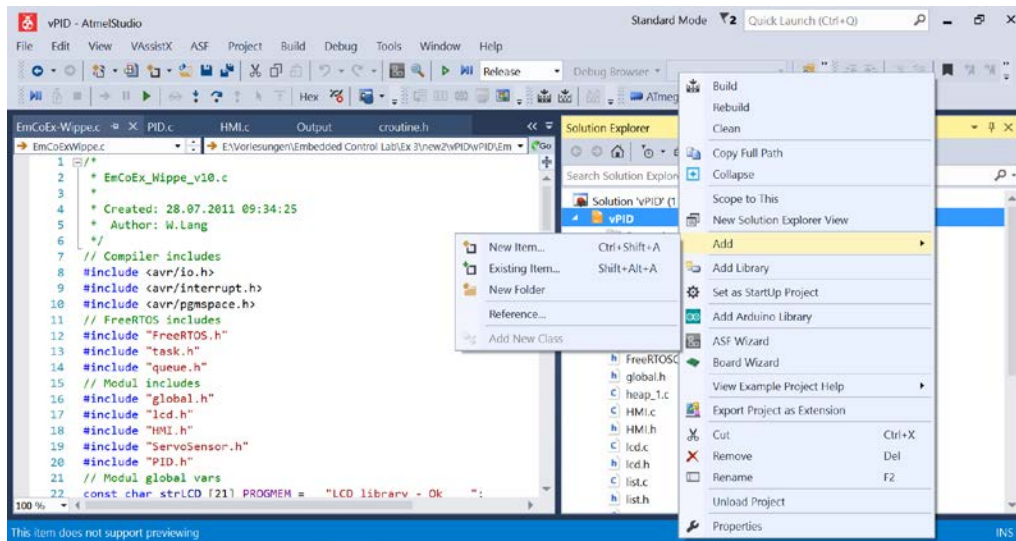

Figure 2: Atmel Studio Project
4. Via the Atmel Studio Solution Explorer add all files (*.c and *.h) from the zip-file (provided in moodle) to the project vPID ("drag and drop" the files from the folder/zip-file into the project folder vPID in the solution explorer, see Figure 2).